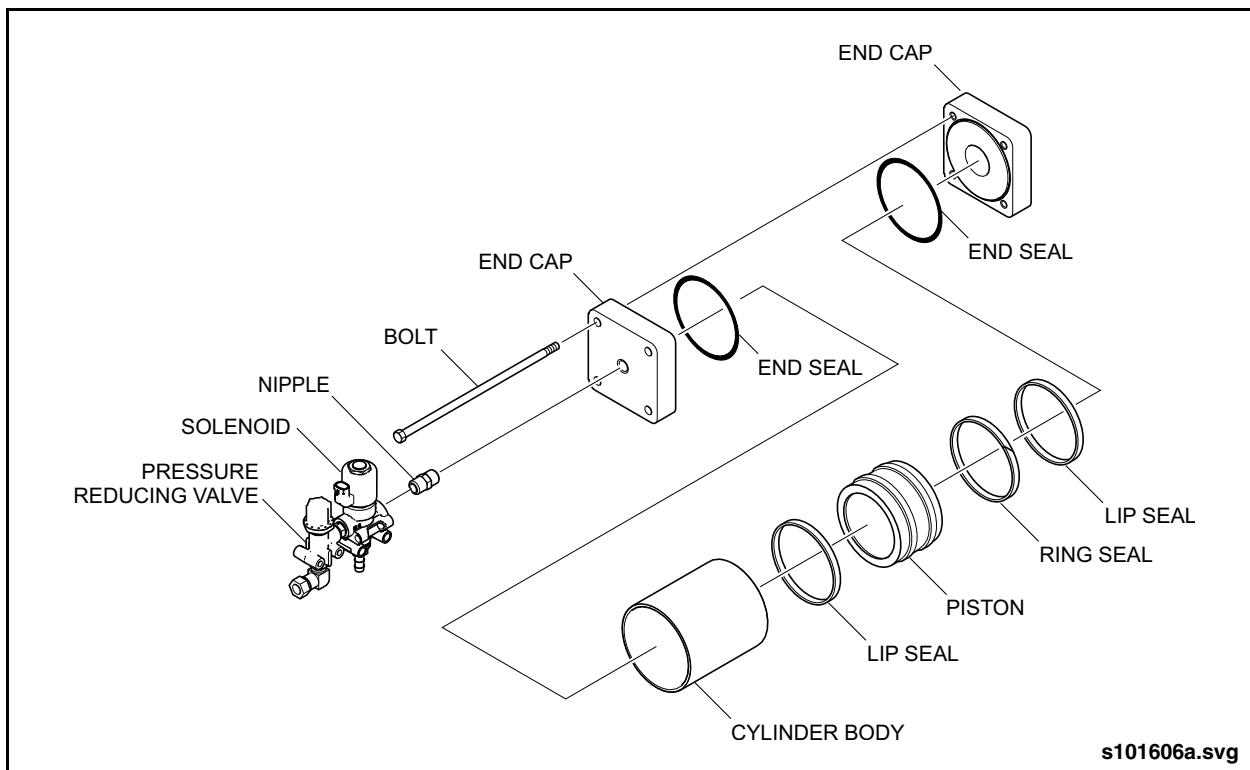

Fig. 5-12: Accumulator Assembly*
1. Remove solenoid and fitting from accumulator end cap. See "Fig. 5-12: Accumulator Assembly" on page 27.